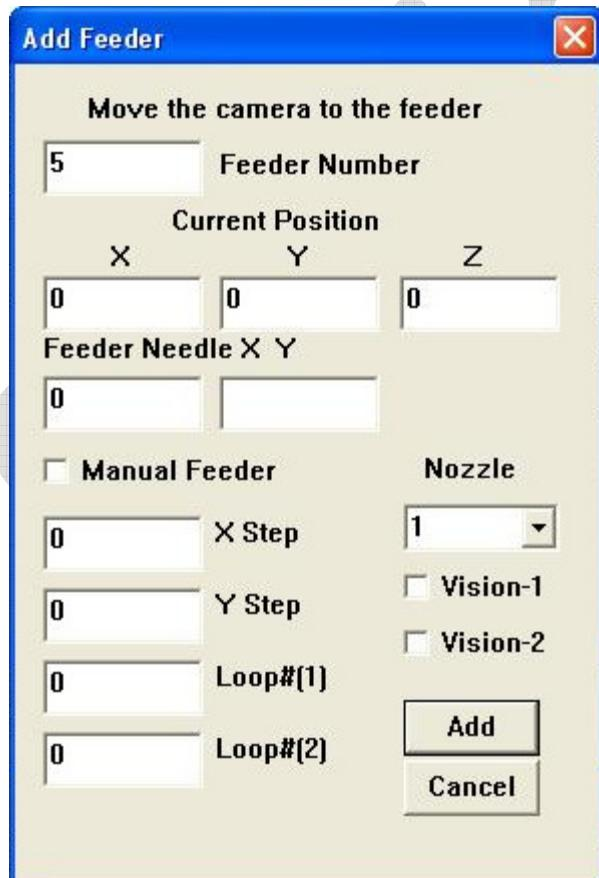

Figure 4.8: The ADD FEEDER Window
14. The easiest way to determine the PULLING DISTANCE is to use the NAVIGATION PANEL. First, switch to the MAIN WINDOW and move the camera view until the crosshairs are centered on a needle hole of the component tape, as in **Figure 4.8**. Record the X and Y coordinates of this position (in this case, X = 9690, Y = 35312).